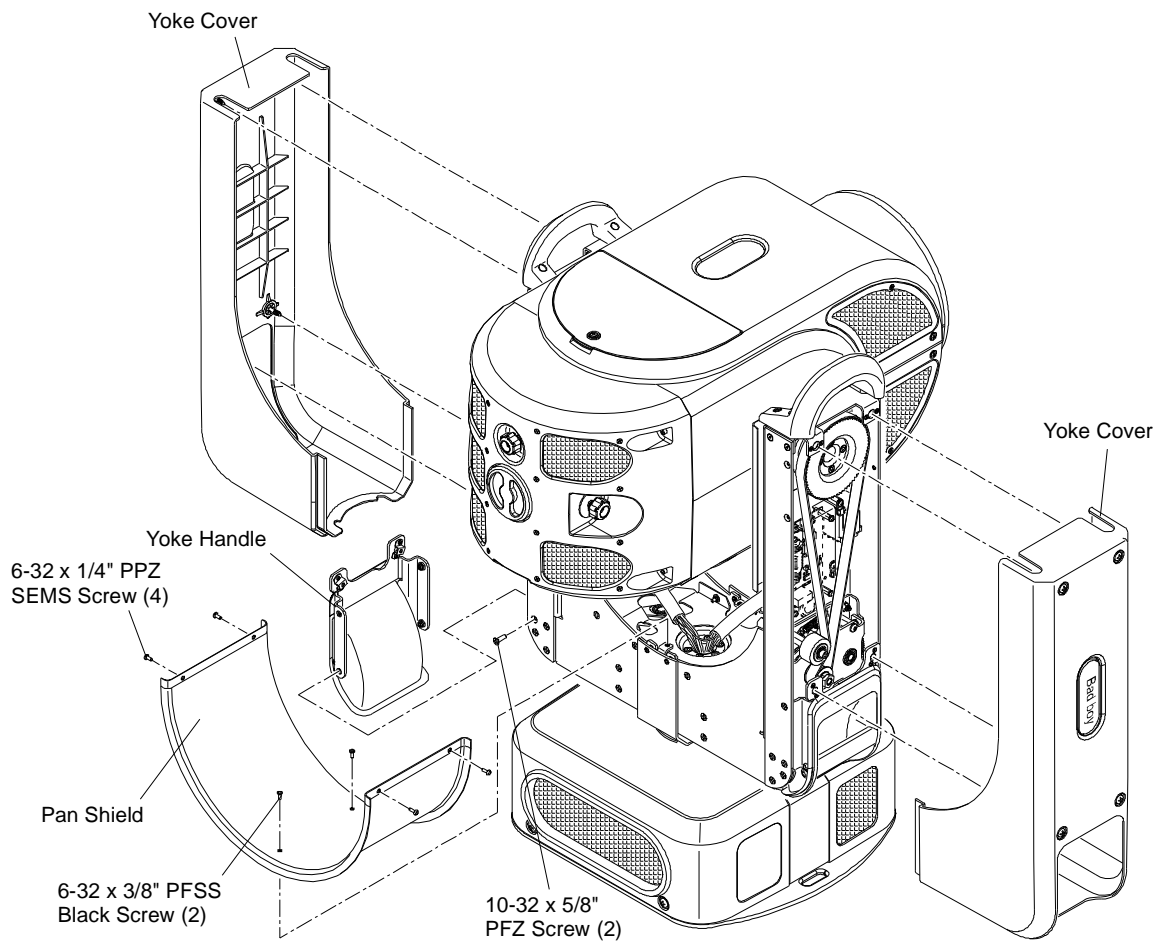

Figure 3-39: Removing Yoke Covers, Handle and Pan Shield
- Step 2. Remove both Yoke Covers by loosening four captive screws (**Figure 3-39**).
- Step 4. Remove Pan Shield by removing two 6-32 x 3/8" PFSS black screws and four 6-32 x 1/4" PPZ SEMS screws (**Figure 3-39**).